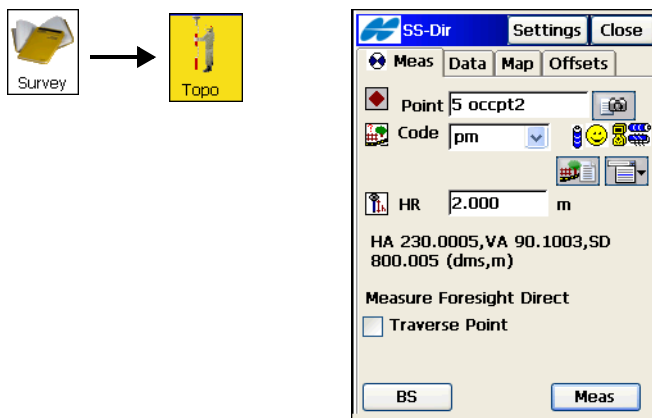

Figure 8-36. Sideshot-Direct
- Tap **Survey ▶ Topo** (Figure 8-36). Select the **Sideshot Dir** measurement method and set the order and the type of the measurements in a set.
6. To perform the sideshot, tap the **Meas** button (Figure 8-36 on page 8-34).